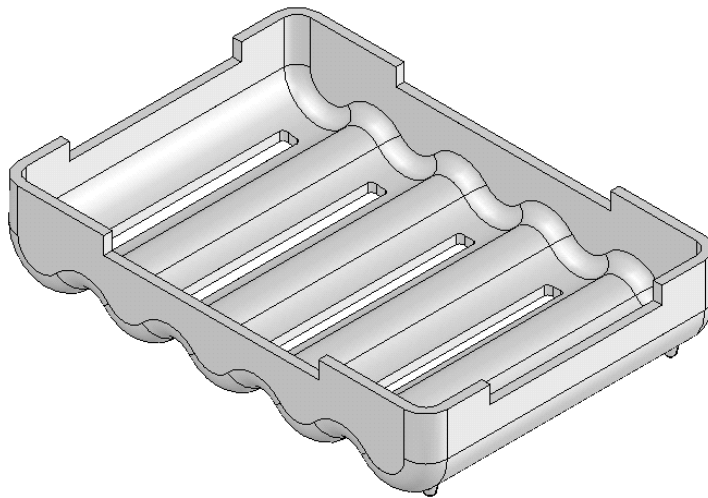
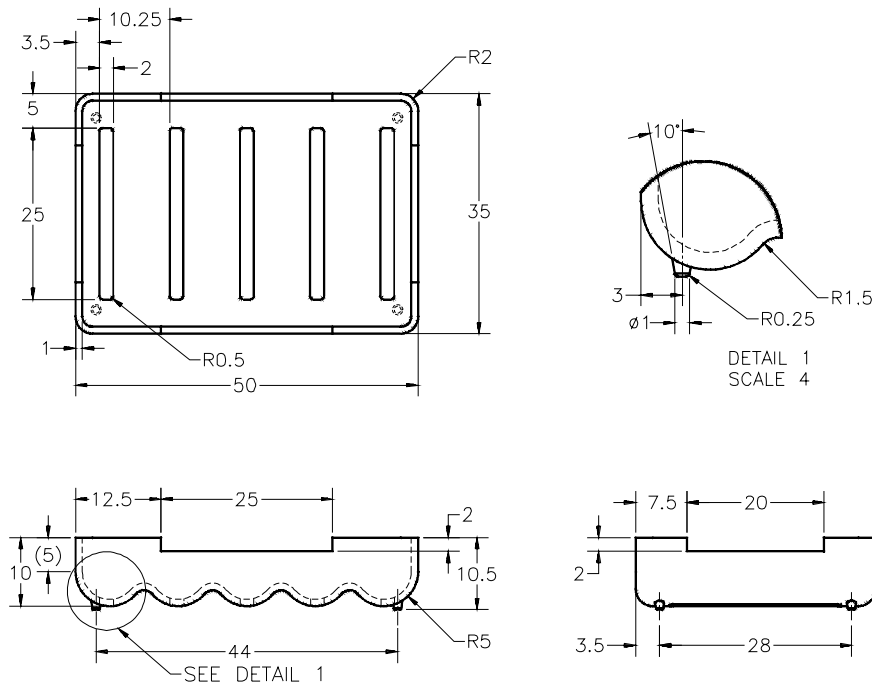

Figure 9-39 Model for Tutorial 1
Figure 9-40 Views and dimensions of the model for Tutorial 1
In this tutorial, you will create the model shown in Figure 9-39. After creating some of its features, you will dynamically modify it, and then undo the modification. The dimensions of the model are shown in Figure 9-40. **(Expected time: 30 min)**
2. Select the newly created sketching plane, draw the sketch of the standoff, and apply the required relations and dimensions. The sketch consists of a circle of diameter 1 mm. For more dimensions, refer to Figure 9-40.